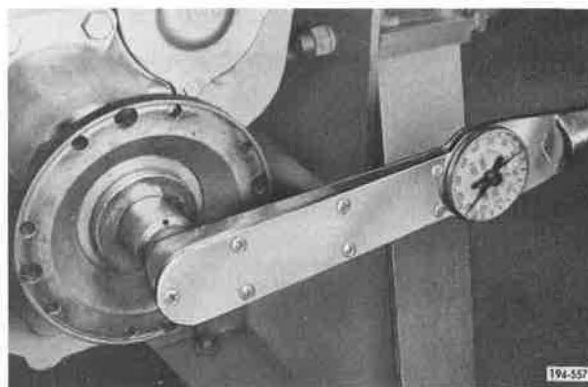

Figure 5-977. Torquing Capscrew
7. Place two sliding clutches into engaged position, which will lock up assembly, and tighten drive flange (or yoke) clamp plate capscrew to recommended torque. See **Figure 5-977**. Refer to Torque and Tolerance Table, Item 13.